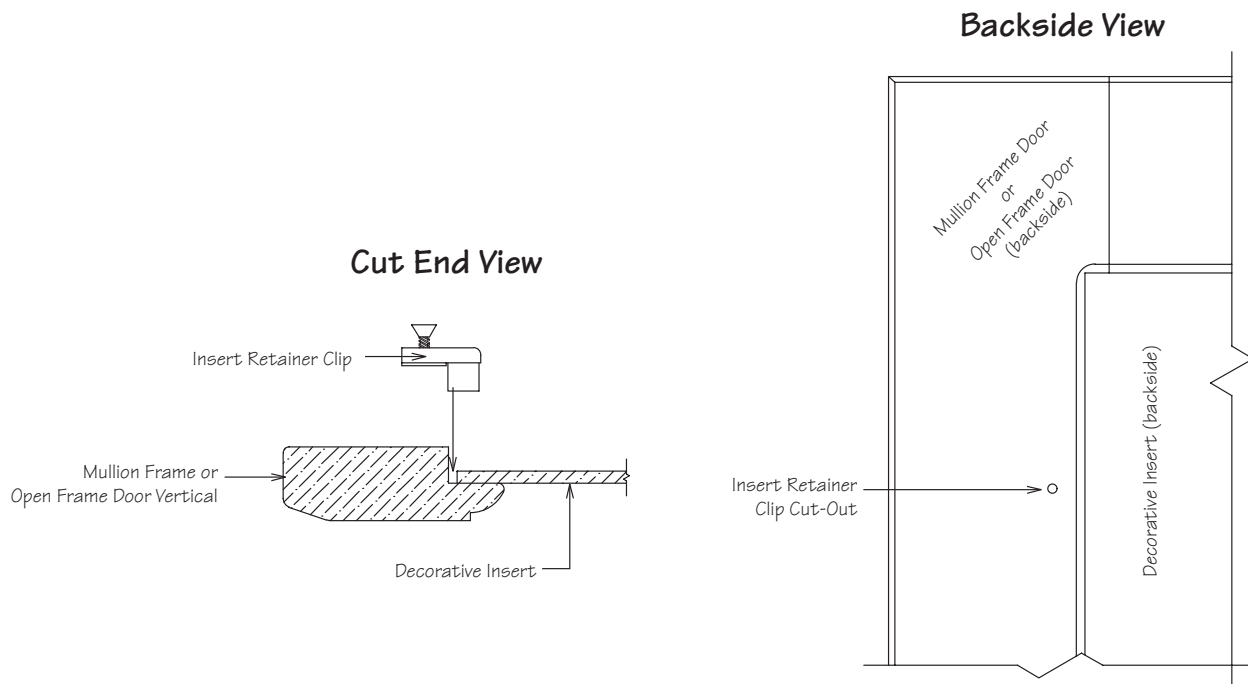

Figure 1
- 5** Secure Decorative Insert Panel into place by attaching the insert retainer clips into the pre-drilled hole. See Figure 1.